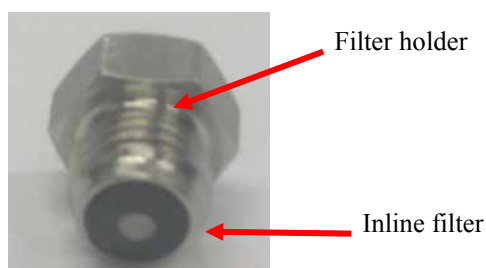

Fig. 42: Filter holder with inline filter
- Remove the filter holder (standard pump: part no. 6030.2103; biocompatible pump: part no. 6030.2112) from the outlet block, using the open-end wrench from the pump's accessories kit. The inline filter is in the filter holder (→ Fig. 42).